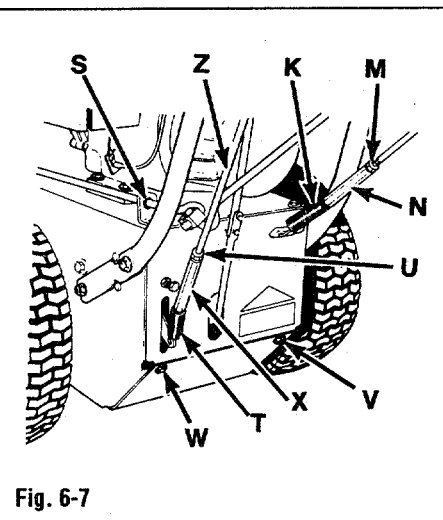
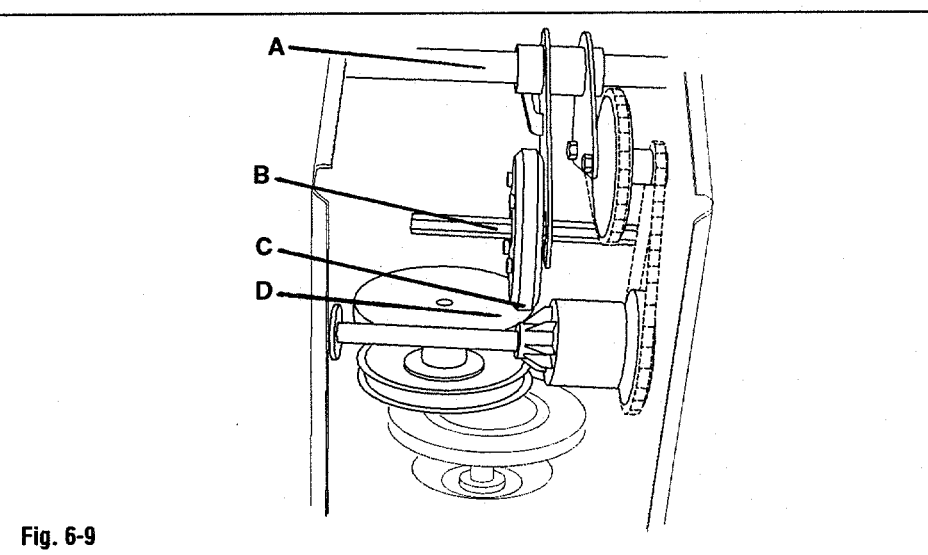

Fig. 6-7
Fig. 6-9
- C. Support on left rear end of snowthrower housing (S, Fig. 6-7).
10. Remove bolts (V and W, Fig. 6-7) securing bottom cover to unit. Remove bottom cover. Apply a light coating of grease to shafts (A and B, Fig. 6-9). Prevent grease from contacting rubber drive wheel (C) or dripping onto drive disc (D). If grease should contact these parts, clean thoroughly to deter slippage and help assure trouble-free operation.
1. Measure length of spring (T, Fig. 6-7) on lower end of wheel drive control rod (Z). Squeeze wheel drive control lever. Hold lever down and remeasure length of spring. Spring should now measure 11/16 in. +/- 1/16 in. (17 mm +/- 1.5 mm) longer than first measurement.
A. Loosen jam nut (U, Fig. 6-7). Turn adjuster (X) up the control rod to increase or down to decrease distance measured in step 1 (each 1-1/4 turn of adjuster will equal 1/16 in. (1.5 mm) of spring extension).
B. Repeat step 1. If difference in measurements is not 11/16 in., repeat adjustment. When measurement difference is 11/16 in., tighten jam nut (U) against adjuster (X).
1. Check spring (K, Fig. 6-7) tension as follows: